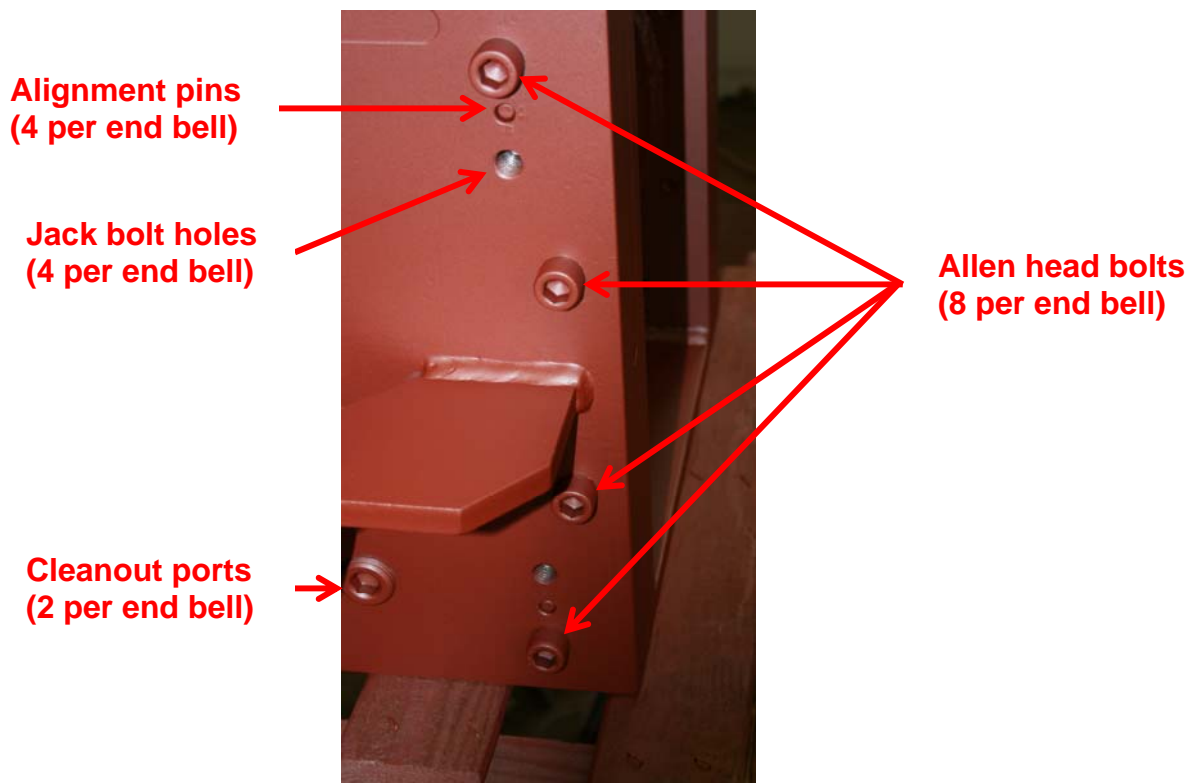

Figure 3
3. Using a hammer or mallet and a punch, drive out the 4 alignment pins on each end bell (see figure 3.)
4. Using an Allen wrench, loosen and remove the 8 bolts in each end bell (see figure 3.) These bolts fasten the end bell, wear plate, and barrel sides together.
5. On each end bell, there are 4 jack bolt holes (see figure 3) which can be used to separate the end bell from the wear plate if the two are bound together. Insert four of the Allen head bolts into the four threaded holes. They should contact the outboard side of the wear plate; then sequentially tighten the four bolts so that they push the end bell away from the wear plate.